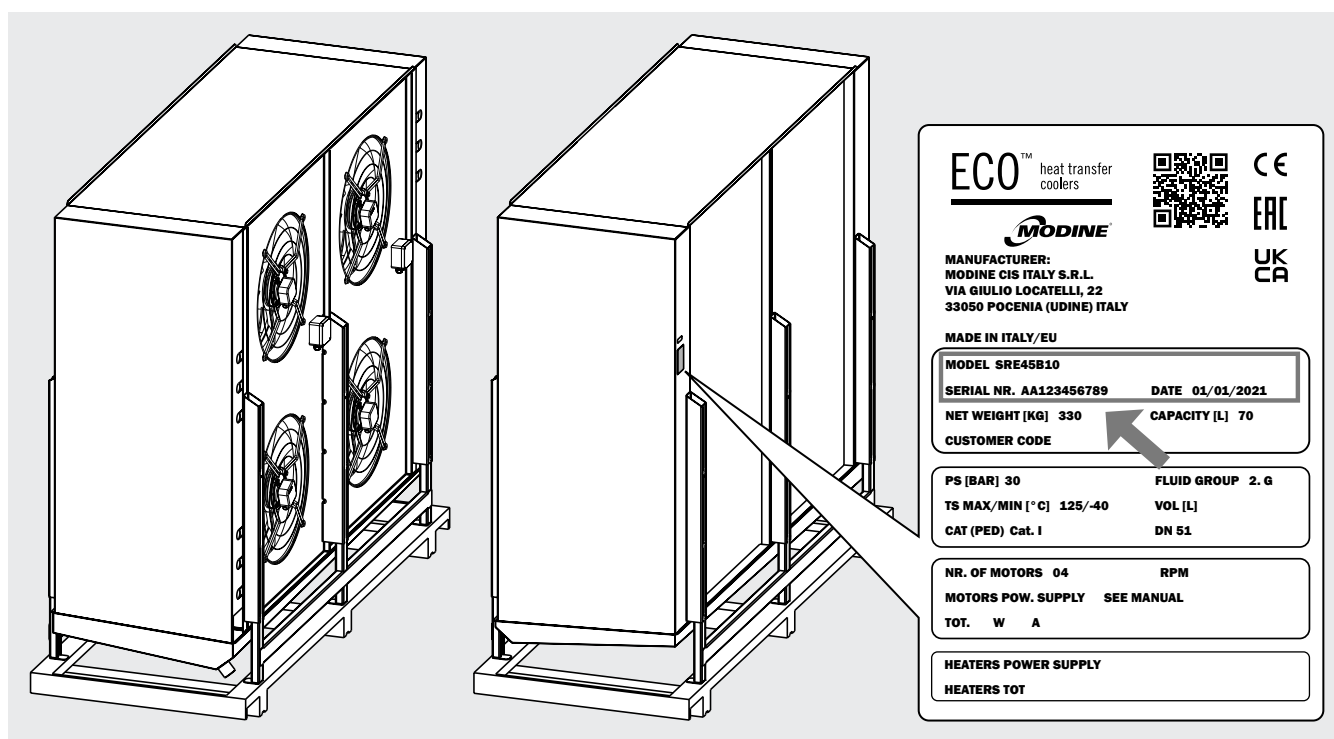

Figure 1
- 3.1 For any communication, request for assistance or spare parts, please provide the model name and serial number shown on the data plate. See Figure 1.